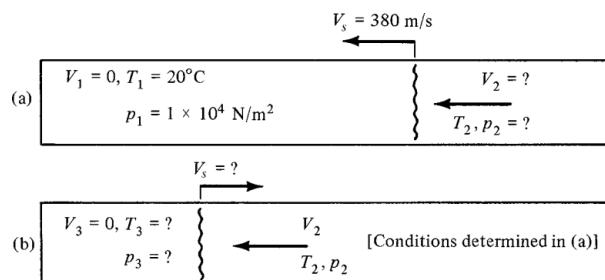

Figure P7.5
- 7.5** A closed tube contains nitrogen at 20 °C and a pressure of  $1 \times 10^4 \text{ N/m}^2$  (Figure P7.5). A shock wave progresses through the tube at a speed of 380 m/s.